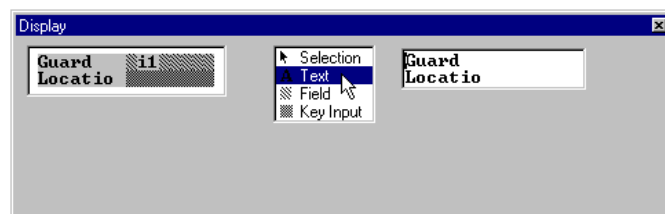

Figure 3-64 “Guard” Handler Display - Text Tool Selected
54. The **Generate Displays** command automatically truncates the Handler names to seven characters in the display; this is why **Location** appears as **Locatio** in the display. To correct this, select **Text** from the **Display** window tool palette. The text entries are shown in the edit box (Figure 3-64).